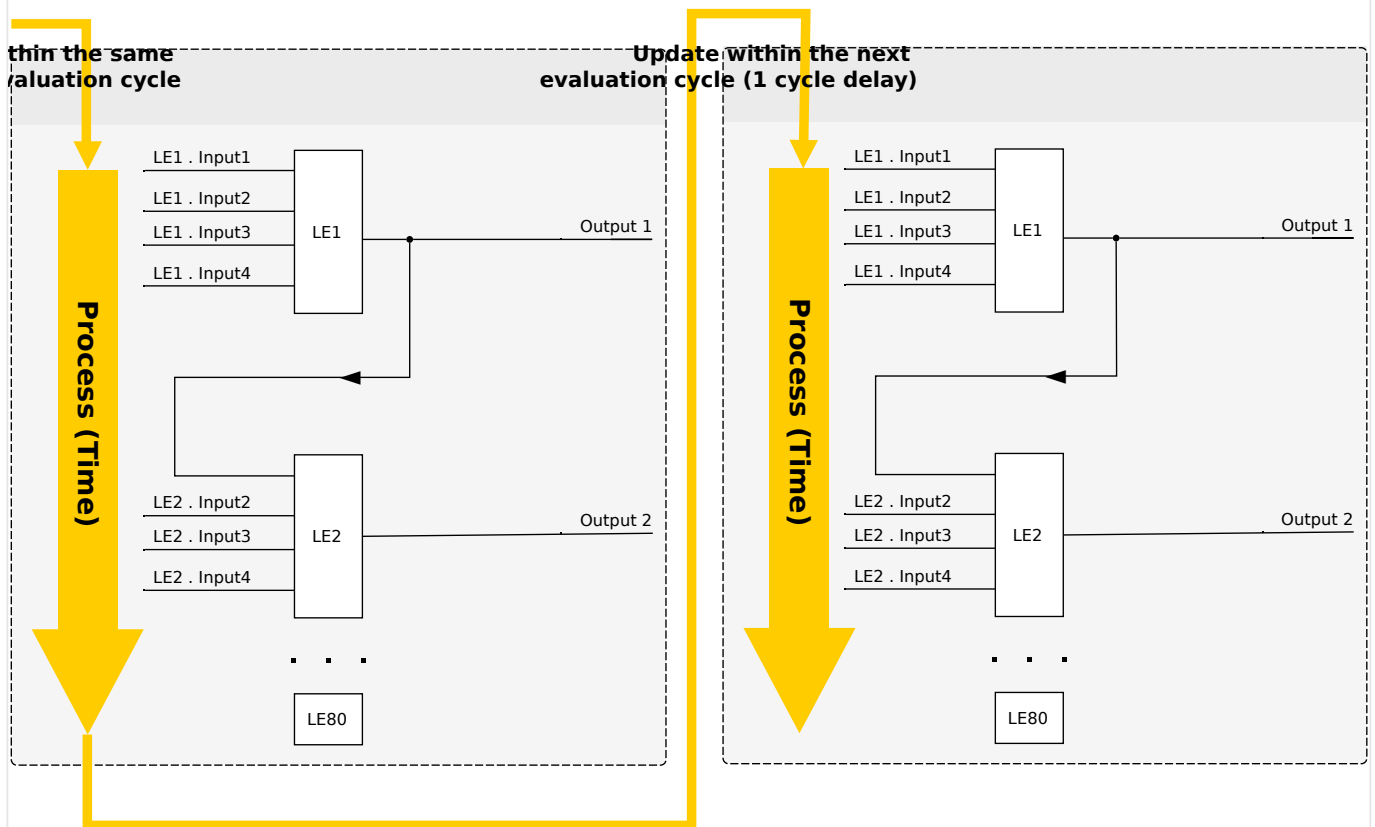
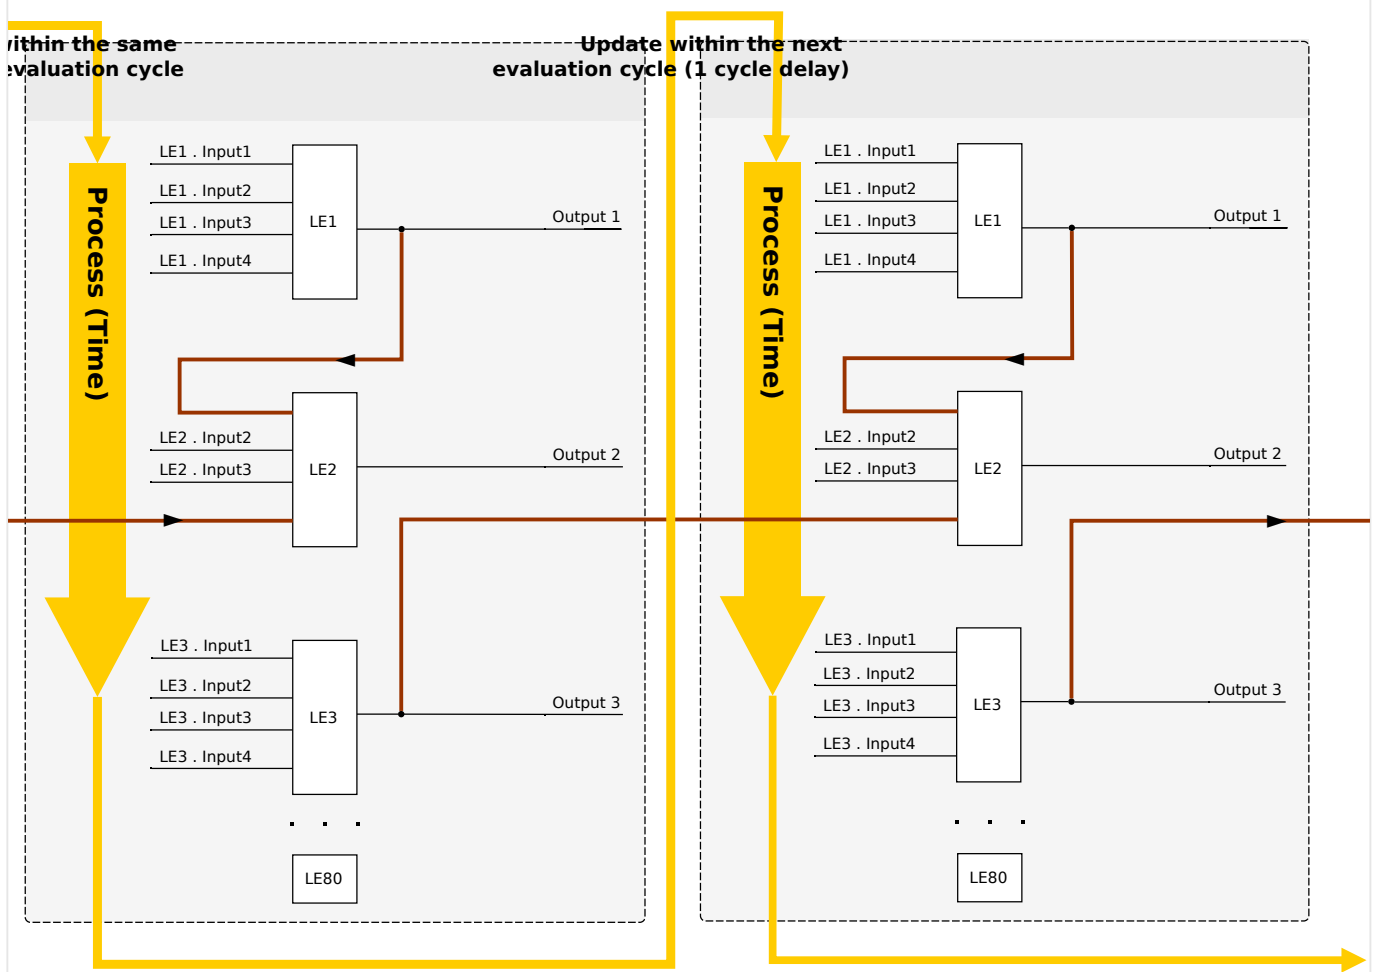

Fig. 86: Cascading in Ascending Order.
Fig. 87: Cascading in Descending Order.
- **Ascending** sequence means that some output is fed into the input of a logic equation with **higher** number. For instance, diagram ↪Fig. 86 below shows an example where the result of Logic Equation LE1 is used as an input of Logic Equation LE2.
- **Descending** sequence means that some output is fed into the input of a logic equation with **lower** number. For instance, diagram ↪Fig. 87 shows an example where the result of Logic Equation LE3 is used as an input of Logic Equation LE2.
Both ascending and descending sequences may be used and combined one with the other, with no immediate difference. However, due to the evaluation of all equations in ascending order the actual run-time values that are fed in at the input of an equation will have a different “age”, as is shown in ↪Fig. 86 and ↪Fig. 87 below.
In the example shown in Fig. 87 above, “Logic Equation 2” uses the output states of two other equations, “Logic Equation 1” and “Logic Equation 3”. The result of “Logic Equation 1” is used in ascending order and has therefore been evaluated within the same process cycle. The result of “Logic Equation 3” is used in descending order and has therefore been evaluated in the previous process cycle.